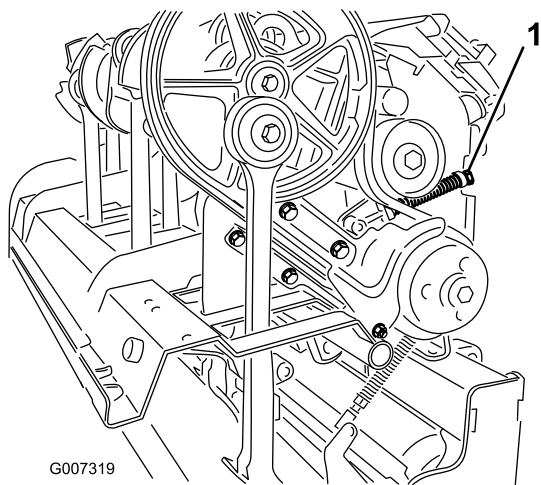

Figure 37
4. To release the idler spring tension, loosen the locknut securing the spring retainer (Figure 37) and rotate the spring retainer.